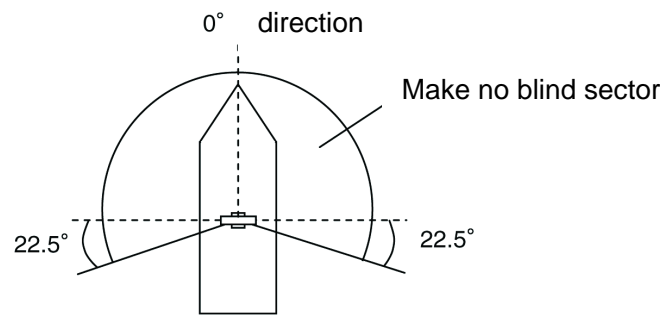

Fig. 1-3-5
- Minimize the blind sector, and ensure the adequate view angle so that the blind sector does not exist in the range 22.5° from side to rear (Fig. 1-3-5). Specifically, ensure a sufficient view field in the straight front (relative bearing 000°).